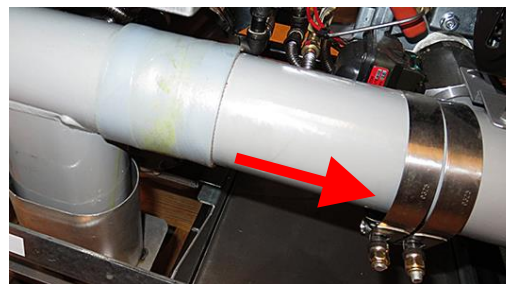

Figure 45
43. Slide both clamps, to the right of the sleeve, out of the way (see Figure 45).